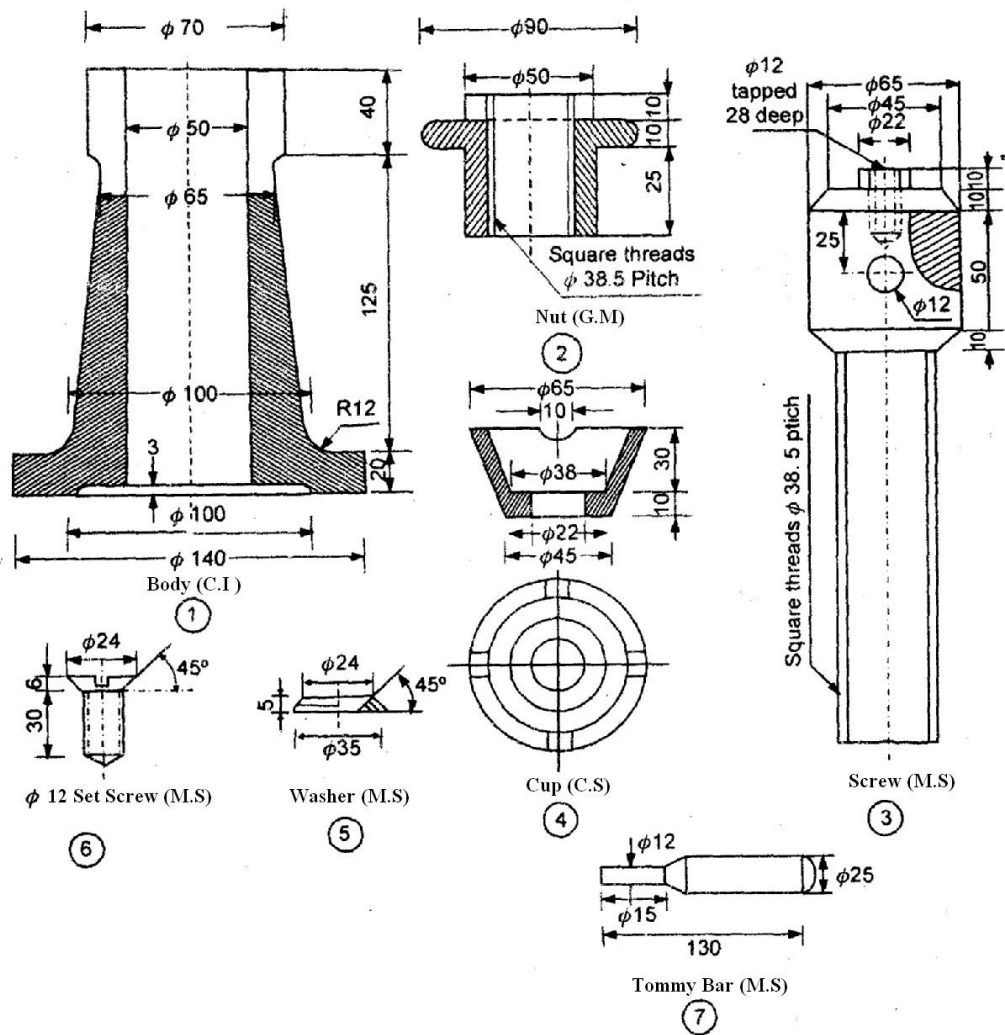

Fig.1
6. Fig1. shows the details of a screw-jack. Draw the following views of the assembly to some suitable scale: